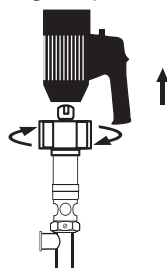
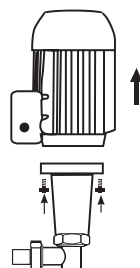

Figure 3
Figure 4
4. Remove motor from pump tube. For models SP-700SR: loosen Hex Nut in clockwise rotation (see Figure 3). For models SP-700DD: loosen (4) bolts that attach the pump to the motor (see Figure 4).
- Reattach motor and resume operation. (SP-700SR: see Figure 3, page 4); (SP-700DD: see Figure 4, page 4).